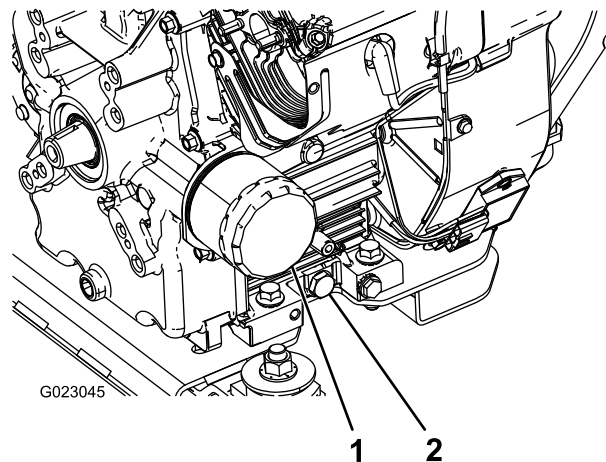

Figure 39
- Remove the drain plug (Figure 39).
- Slowly pour approximately 80% of the specified amount of oil into the oil filler tube (Figure 39).